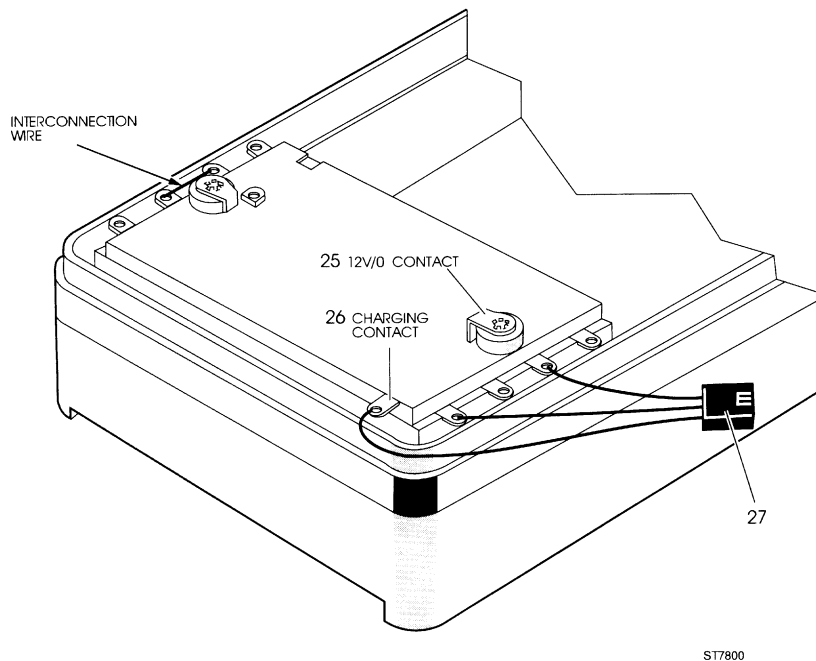

Figure 7.6 Wiring assembly replacement
3. Unsolder the small battery contact interconnection wire (see figure 7.6).